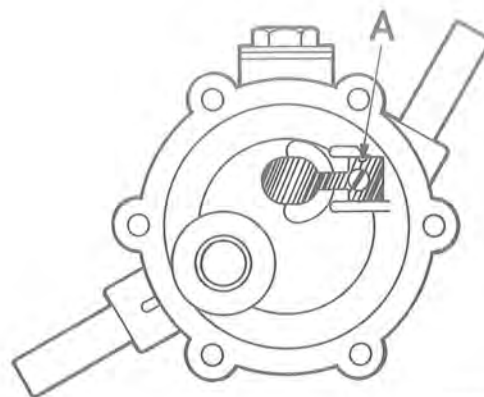

Fig. 2-88. Location of inlet valve
1. Fit the inlet valve, see Fig. 2-88, and the stop arm. Tighten the screw, but only sufficiently so that the spring lies well against the pump body.
2. Fit the spring (8) and guide (9). Prise on the rubber seal (10 with the flange facing inwards towards the guide.
4. Press down the diaphragm, move in the lever (14) make sure that it locates correctly in relation to the diaphragm rod. Fit the pin (12), circlip (13), spring retainer (15) and spring (16).